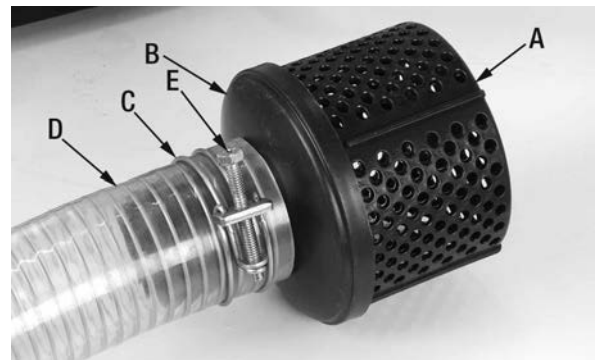

Figure 8
- 2) If you purchased a non-thread 3" reinforced hose, attach it to the inlet hose adaptor and fasten hose as shown in Fig.8 and explained in the following steps.
- 1) Snap the strainer basket (A) Fig.8 and the strainer basket adaptor (B) together as shown.
- 2) Place a wire clamp (C) over the end of the inlet hose (D) (it may be required to cut the 3" NPT off to install the adaptor), then slide both over the strainer basket adaptor.
- 3) With the hose completely positioned over the strainer basket adaptor, position the wire clamp over the ribbed portion of the strainer basket adaptor and tighten wire clamp screw (E) using a screwdriver. Make sure to tighten properly to avoid water leaks.